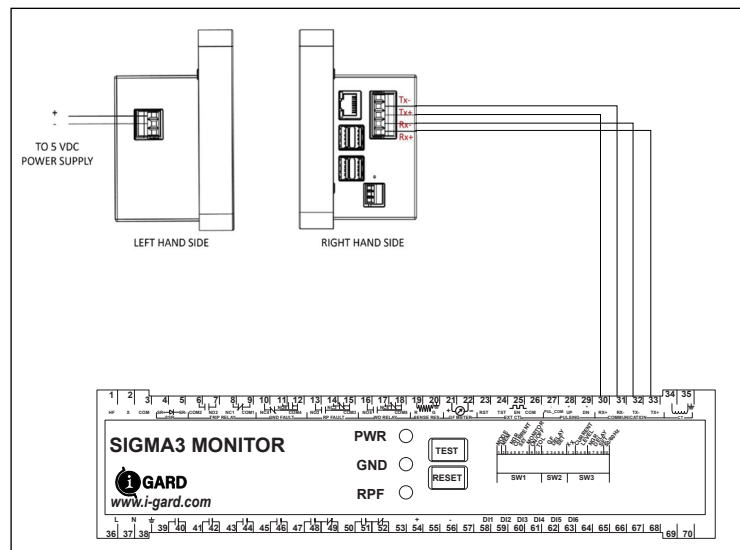

Figure 4.6.2: SIGMA3-C-TDM Mounting using 4 wire
- Connect terminals on the SIGMA3-C to terminals on the TDM, as shown in Table 4.6.2 and Figure 4.6.2
- Connect an external 5 VDC power supply to the TDM as illustrated in Figure 4.6.2